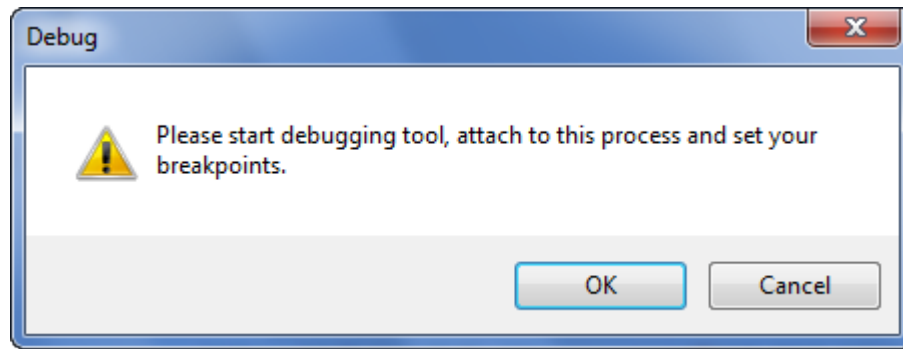

Figure 5.72: Script Host waiting for attaching debugger
- After the Script Host displayed the dialog shown by Fig. 5.72 start Visual Studio 2008 and execute menu item **Tools | Attach to Process....**
- Resume script execution by clicking the OK button in the Script Host dialog (Fig. 5.72).